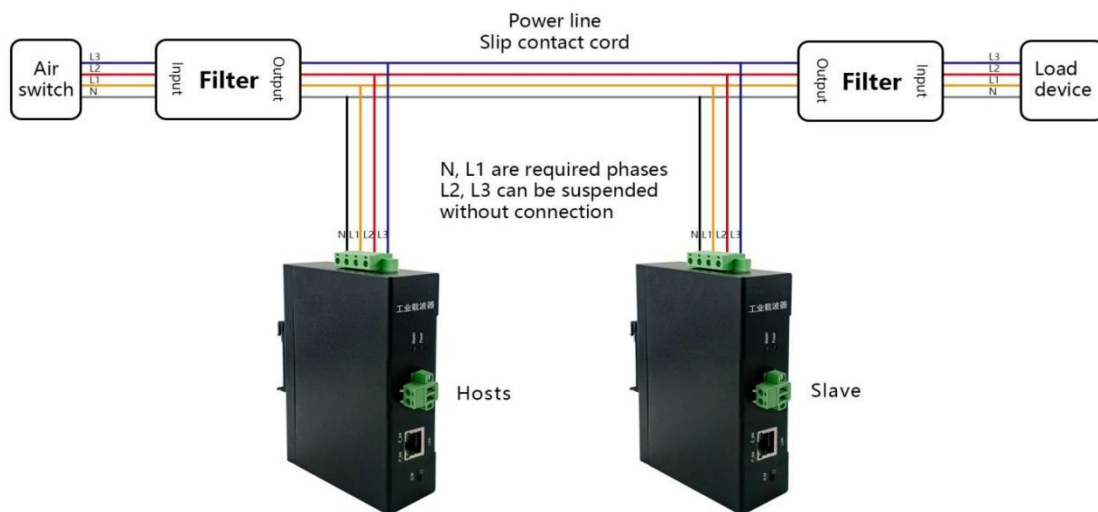

Figure 2
**2、 Three-phase power line: Carrier's N,L1,L2,L3 are connected in parallel on three-phase four-wire , N,L1 port must be connected , L2,L3 ports can be suspended not connected or connected in parallel to the power line , no distinction between phase sequence. Wiring diagram, as shown in figure 2:**